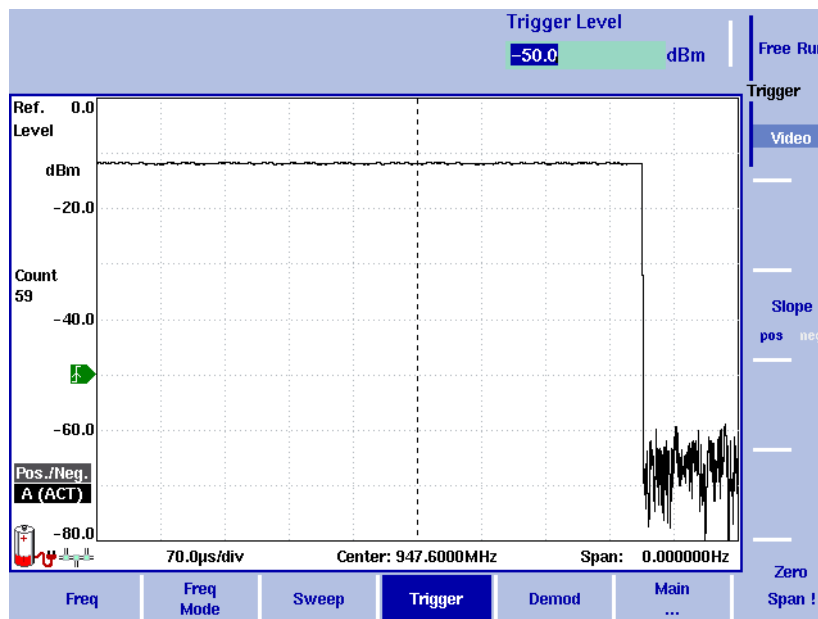

Figure 13 Triggered measurement (in the time domain)
The horizontal axis becomes the time axis. The scale width is identical to the sweep time. See Figure 13 on page 46 for an example.
- 4 If necessary, change the slope between positive and negative direction by pushing the **Slope** softkey. The active slope is indicated at the power axis, see Figure 13.